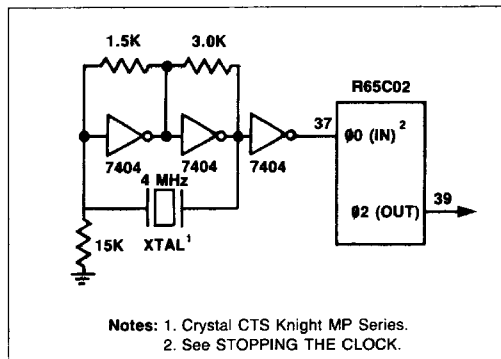

Figure 6. Example of R65C02 External Time Base Generator Circuit
Figure 6 shows a time base generation scheme, for a 4 MHz operation of the R65C02, that has been tested and proven reliable for normal environments.
As with any clock oscillator circuit, stray capacitance due to board layout can affect circuit operation requiring “fine tuning” (e.g. component repositioning or value change) of the circuits shown in Figures 6 and 7. Shunt capacitance (C) includes stray capacitance.